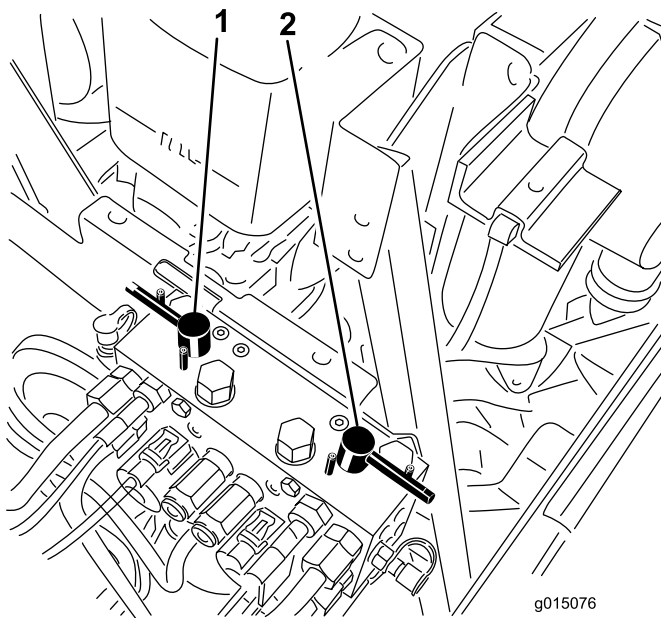

Figure 83
4. Select either front, rear or both backlap levers to determine which units to backlap (Figure 83).